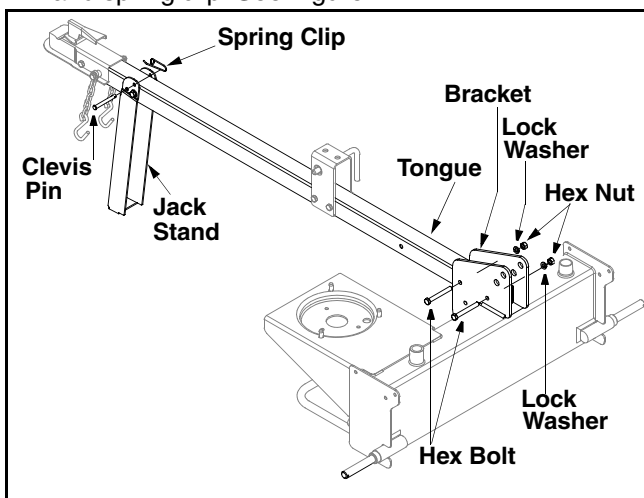

Figure 1
- Secure the jack stand in position with the clevis pin and spring clip. See Figure 1.
- With the log splitter still standing upright, remove two hex bolts, lock washers, and hex nuts from the end of the tongue. See Figure 1.
- Align the holes in the tongue with the holes in the tank bracket and secure with hardware just removed. See Figure 1.